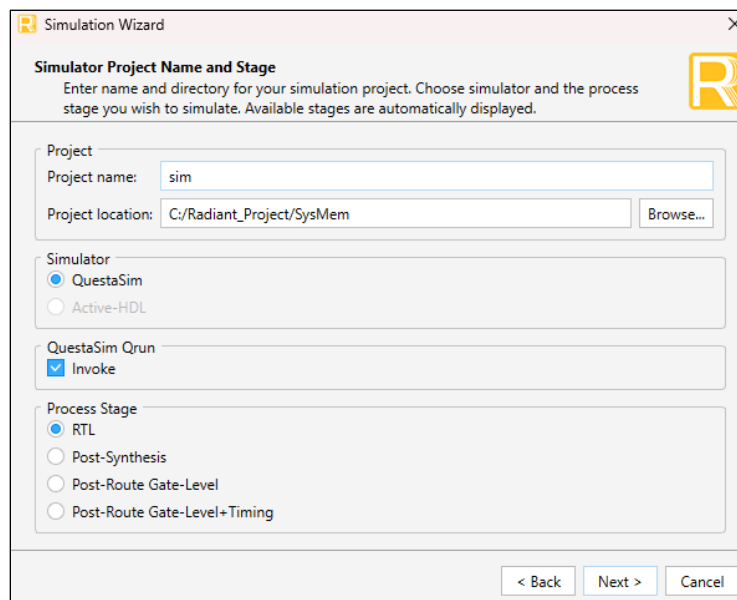

Figure 7.5. Simulation Wizard
1. Click the  button on the **Toolbar** to initiate the **Simulation Wizard**, as shown in Figure 7.5.